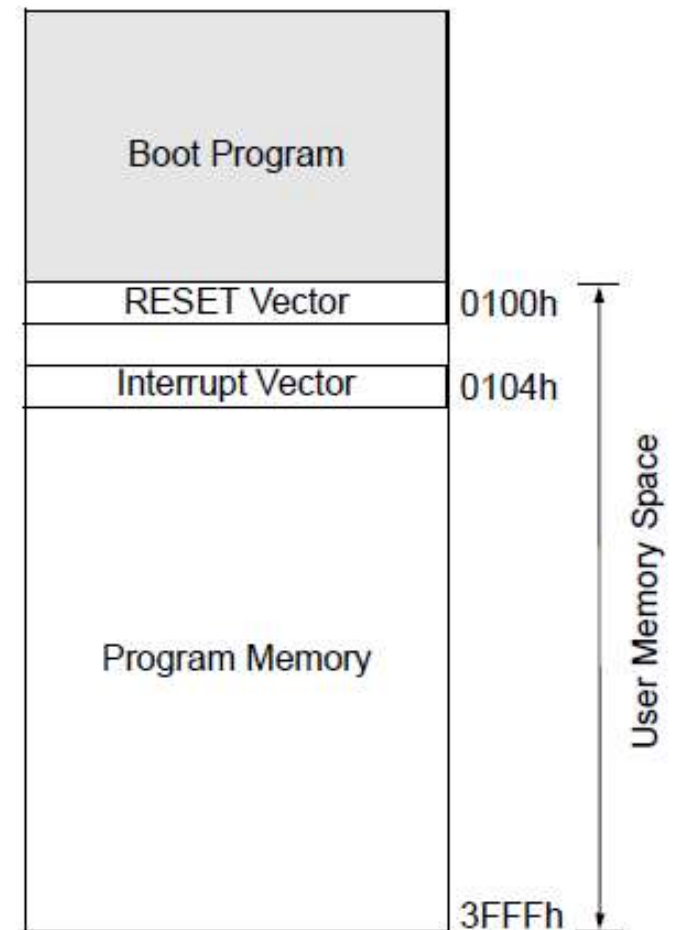

Figure 4: Program Memory Map Of The PIC16F877A
- Figure 4 shows the memory map of the PIC16F877A.